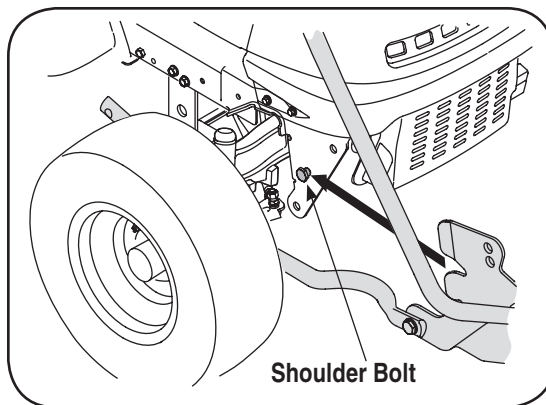

Figure 6-7
1. Install a shoulder bolt on each side of the tractor and secure with a lock nut, as seen in Fig. 6-7
4. With the help of an assistant, lift up the auger housing and move it so that it rests over the shoulder bolts installed in Step 1 of this section. See Fig. 6-7.